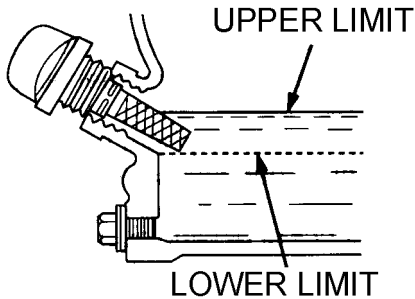

Figure 16. Engine Oil Dipstick (Oil Level)
- If the oil level is low (Figure 16), fill to the edge of the oil filler hole with the recommended oil type as listed in Table 4. Reference Table 3 for maximum engine oil capacity.